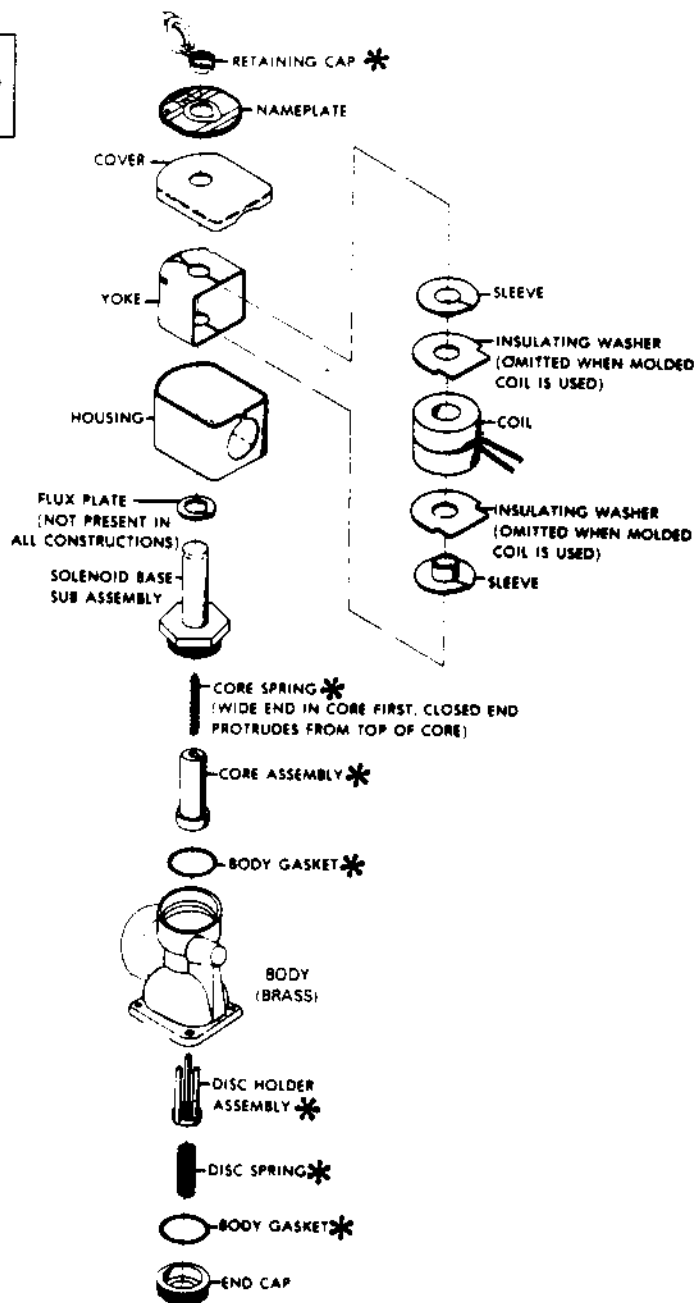

FIGURE 7 - ASCO Unloader Solenoid Valve Part Identification
- (2) Broken Disc Holder Assembly - ASCO unloader solenoid valve. See Figure 7. Repair kits (Kit #170-177) are available from authorized ASCO stocking distributors. Call 212-344-3765 or 201-966-2000 to obtain the name of the nearest ASCO distributor.